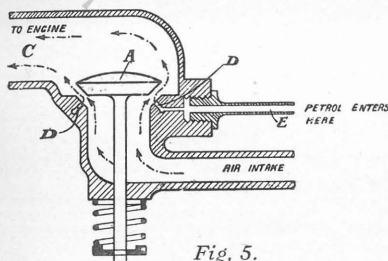

Fig. 5.
So far, we have only mentioned the hand-set needle valve (Fig. 1) and the plain jet. There is another form of jet often used on two-stroke engines and illustrated in Fig. 5. Here we have an inlet valve (A) like the one shown in Fig. 3, air being sucked in and passing through the valve as shown